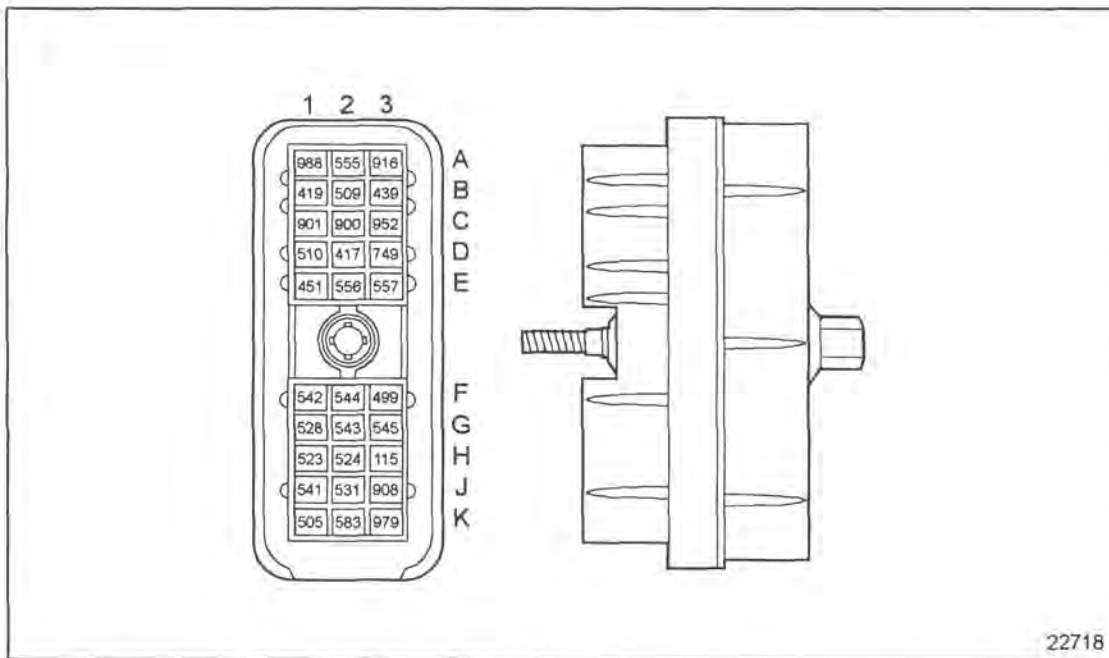

Figure 10-7 ECM Vehicle Interface Harness Connector
1. Check the terminals at the vehicle harness and 5-way power harness connectors (both ECM and harness side) for damage: bent, corroded and unseated pins or sockets. See Figure 10-7.